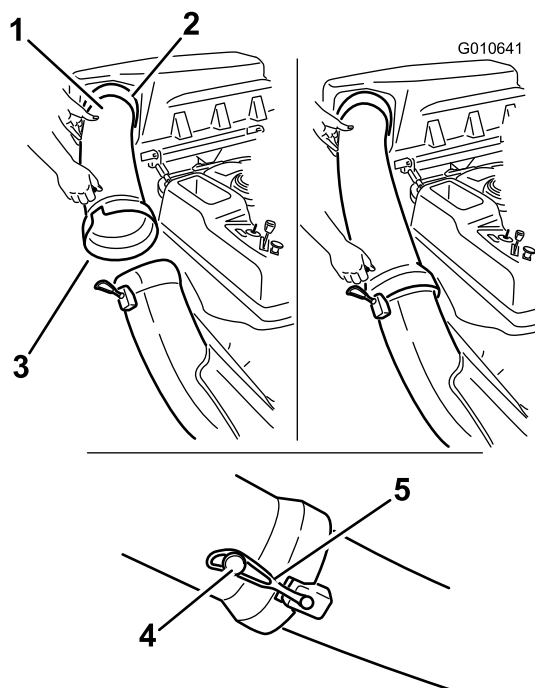

Figure 25
- Slide the curved end of the discharge tube into the opening in the bagger top (Figure 25).
- Slide the flared end of the discharge tube over the end of the chute. Move the rubber retaining strap on the chute snaps over the peg on the discharge tube to secure it (Figure 25).